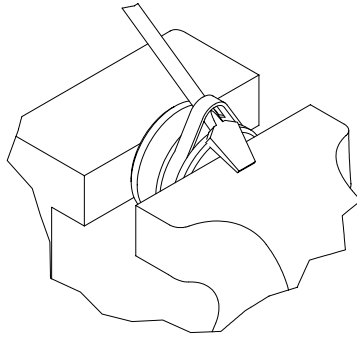

Figure 6-8, Piston Seal
7. Carefully pry up on the piston seals using a blunt tip screw driver being careful not to scratch the seal grooves. Cut the seals to remove from the piston. (Figure 6-8)